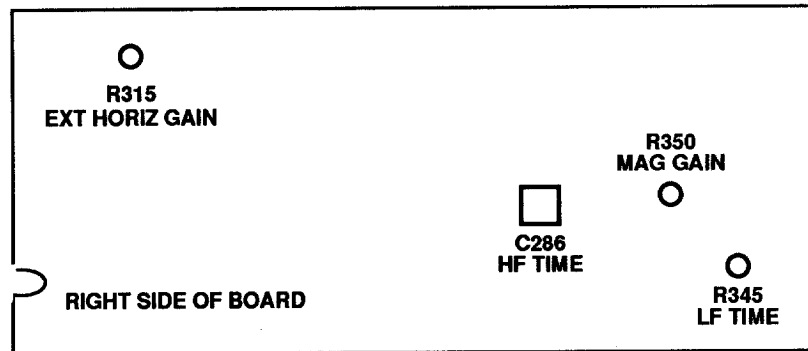

Figure 3. Type 51340 - adjustment locations.
(1) Connect oscilloscope calibrator **SOURCE/MEASURE CHAN 1** to TI **EXT HORIZ AMP**.
(2) Set oscilloscope calibrator **VOLTAGE** output to 5 V and frequency to 1 kHz.
(3) Adjust TI **POSITION** control to position the dots to the extreme right and left vertical graticule lines.
(4) Adjust dual trace amplifier **CH 1 POSITION** control to vertically center the dots.
(5) Rotate oscilloscope calibrator knob located below **EDIT FIELD** pushbutton for 10 divisions of horizontal deflection on the oscilloscope. If oscilloscope calibrator **err** display does not indicate within $\pm 3\%$, perform **b** below.
b. Adjustments. On oscilloscope calibrator, rotate knob located below **EDIT FIELD** pushbutton to adjust for **0.0%** indication on **err** display. Adjust R315 EXT HORIZ GAIN (fig. 3) for a 10 division horizontal deflection on oscilloscope (R).
²Adjust C286 HF TIM (fig. 3) for best compromise if out-of-tolerance conditions exist between .5, .1, and .2 μs positions.
(1) Rotate oscilloscope calibrator knob located below **EDIT FIELD** pushbutton for 0.0% indication on **err** display. Adjust R345 LF TIME (fig. 3) to align one time marker per division (R).
(2) Rotate oscilloscope calibrator knob located below **EDIT FIELD** pushbutton for 0.0% indication on **err** display. Adjust R350 MAG GAIN (fig. 3) to align one time marker per division (R).
(3) Rotate oscilloscope calibrator knob located below **EDIT FIELD** pushbutton for 0.0% indication on **err** display. Adjust C286 HF TIME (fig. 3) to align one time marker per division (R).